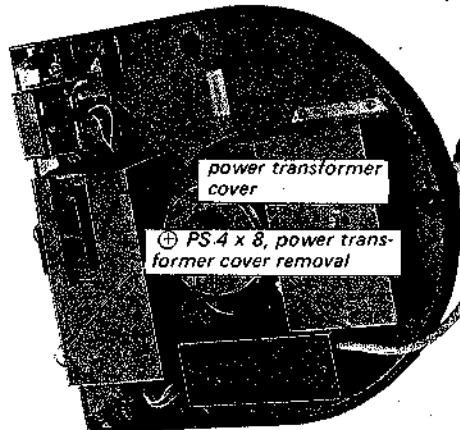

Fig. 2-6. Power transformer cover removal
2. Remove the two screws (\oplus PS 4 x 8) and securing the power transformer cover to the heat sink as shown in Fig. 2-6, if necessary.